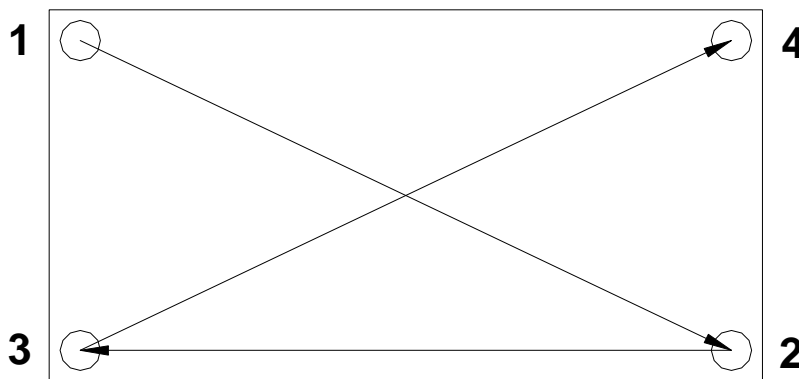

Figure 4 - Torque Sequence
- Torque pattern: Loosely insert all screws before torqueing. If the power module has four mounting studs, it is recommended that the torque sequence be in a criss-cross pattern as shown in Figure 4. For modules with only two mounting studs, there is no torque sequence.